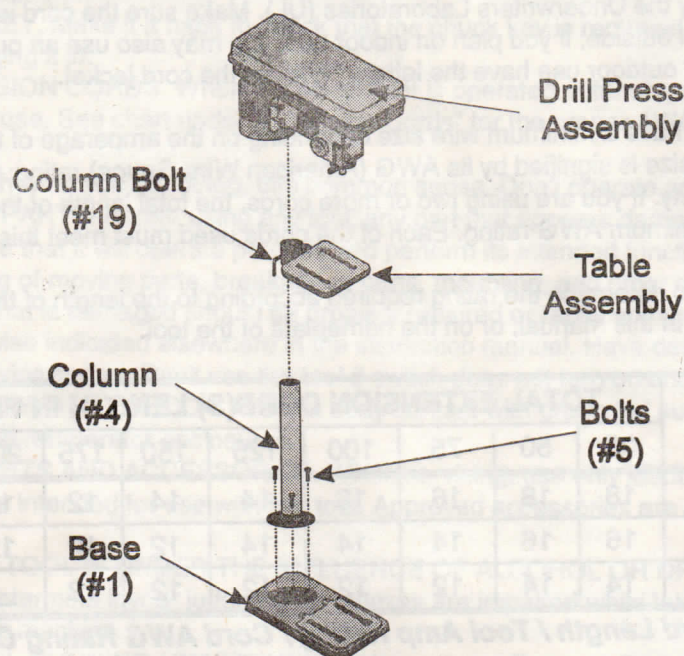

Figure 1 -- Assembly
Step 2: Place the **COLUMN (#4)** on the **BASE** and secure using its **BOLTS (#5)** as shown in Figure 1.